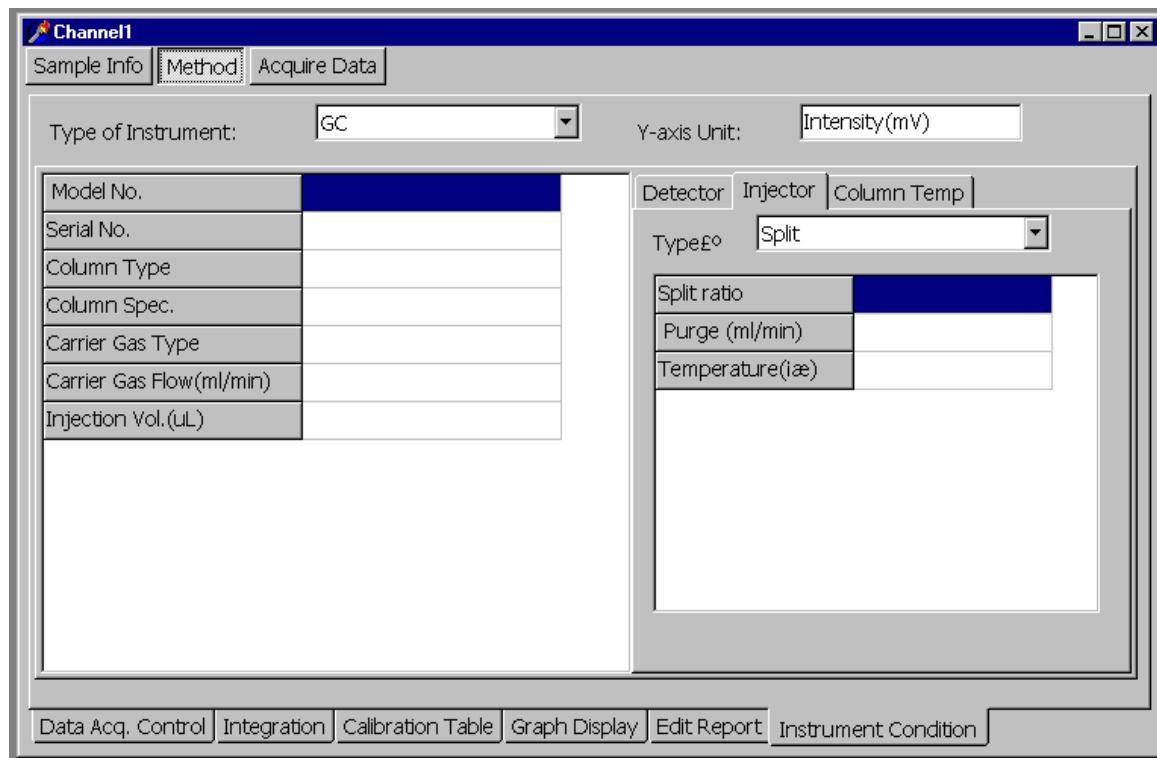

Figure C-260. Dialog Box for Editing the Instrument Condition
3. The Dialog Box for editing the instrument condition appears as shown in Figure C-260.